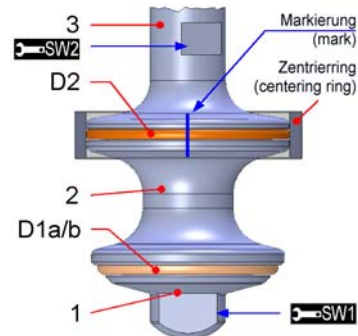

Fig. 5
- Screw together piston plate (1) and piston (2) and (3) manually to metallic stop position without sealing ring and carry out colour marking (Fig. 5 /Page 7).
- Once again screw off the piston plate (1) and the piston (2) from the piston (3).
- Push the seal (D1a), (D1b) on the piston (2) and push the seal (D2) on the piston (3).
- Screw manually the piston plates (1) and the piston (2) into the piston (3).
- For centring the seal (D2) on the piston (3), the centring ring has to be placed as shown in Fig. 5 /Page 7.
- Screw the piston (1) (SW1) till to the marking into the piston (3). Hold against at the wrench size (SW2)